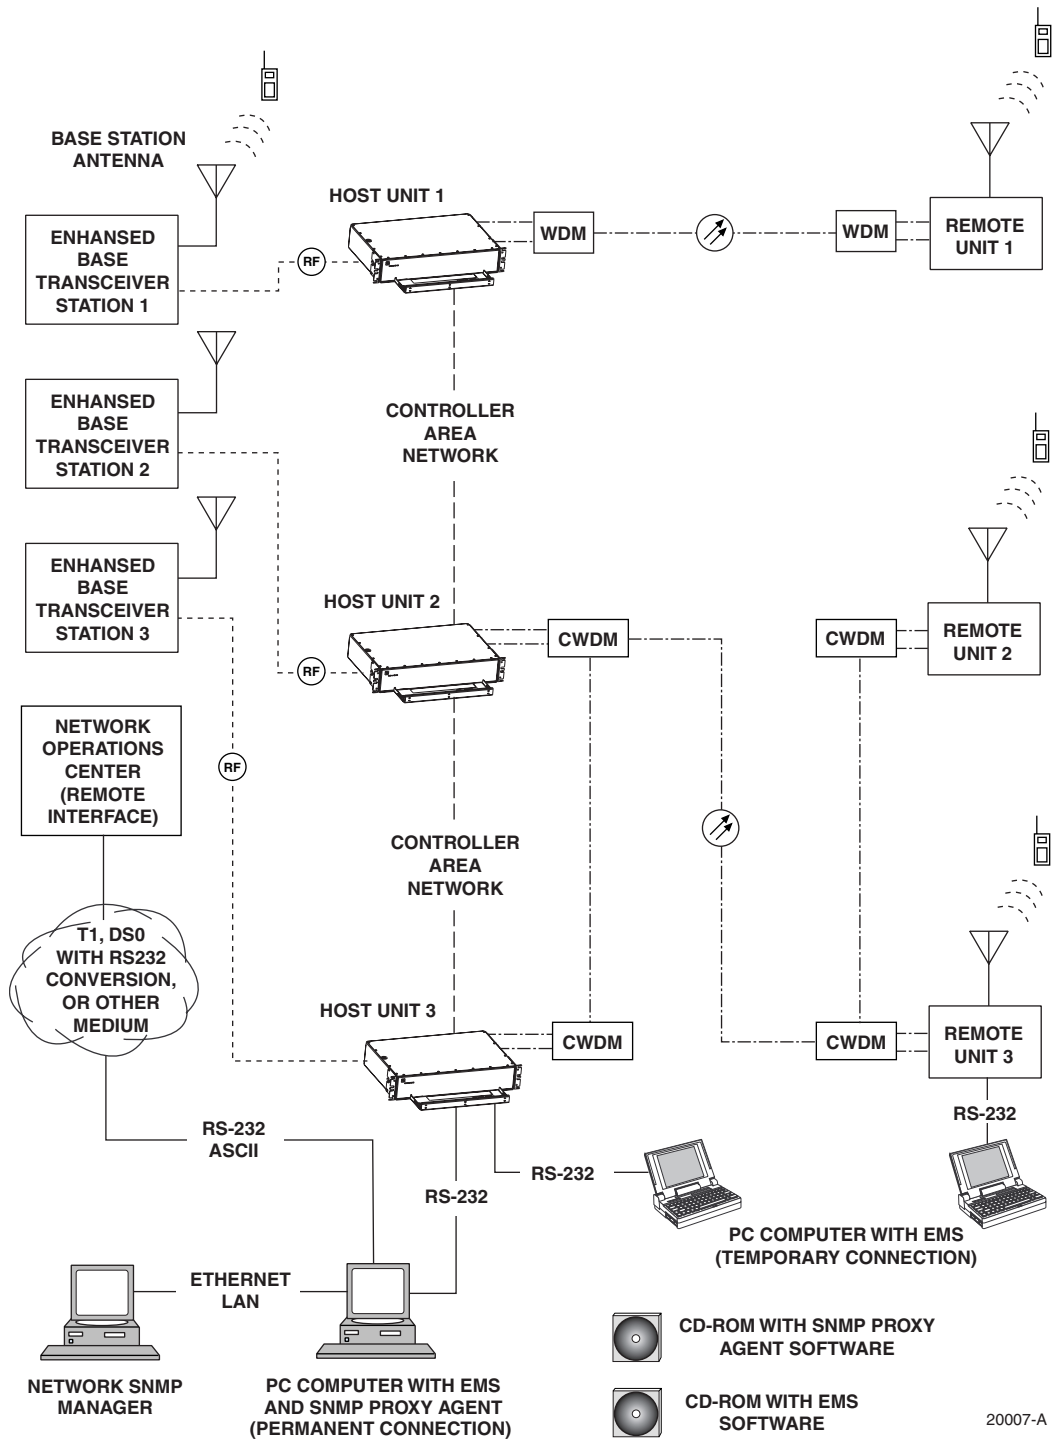

Figure 1-1. System Overview Diagram
The basic components of a typical Digivance LRCS system and their function are shown in Figure 1-1. A basic LRCS system consists of a Host Unit (HU) and a Remote Unit (RU). The HU consists of a single-unit assembly that mounts in a standard equipment rack. The RU consists of multiple electronic and optical modules that mount in either an outdoor cabinet or an indoor mounting shelf. Control and monitoring functions are provided by the Digivance Element Management System (EMS). In addition, various accessory items including a back-up battery for the RU, a passive Wavelength Division Multiplexer (WDM) system, and an active Coarse Wavelength Division Multiplexer (CWDM) system are available as accessories.
The RU interfaces with the handsets (cell phones) through an antenna. In the reverse path, the RU receives RF signals from each handset (see Figure 1-1). The RU digitizes the RF signals and then converts them to digital optical signals for transport to the HU over the optical fiber link. In the forward path, the RU receives digital optical signals from the HU. The RU converts the optical signals to RF signals for transmission to the handsets. The RU is connected to an antenna (not provided) which transmits and receives the handset RF signals.